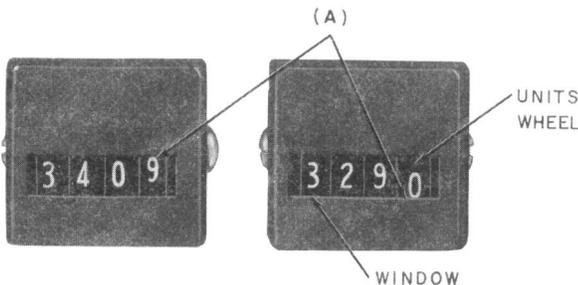

Fig. 1—Alignment of Number Wheels
2.02 Alignment of Number Wheel: Fig. 1, (A)—With the register in the unoperated position, after having been electrically operated and released, the following requirements shall be met.